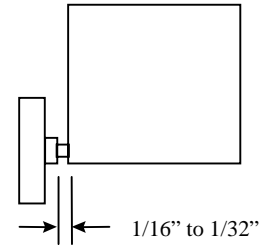

FIGURE 16
1. **Set the Wheel Clearance** - When attaching the wheels/axles adjust the wheel clearance to 1/16” to 1/32” (see Figure 16). Too wide of a clearance will cause the car to zig-zag down the track, while too narrow of a clearance will cause the wheels to constantly rub against the car.